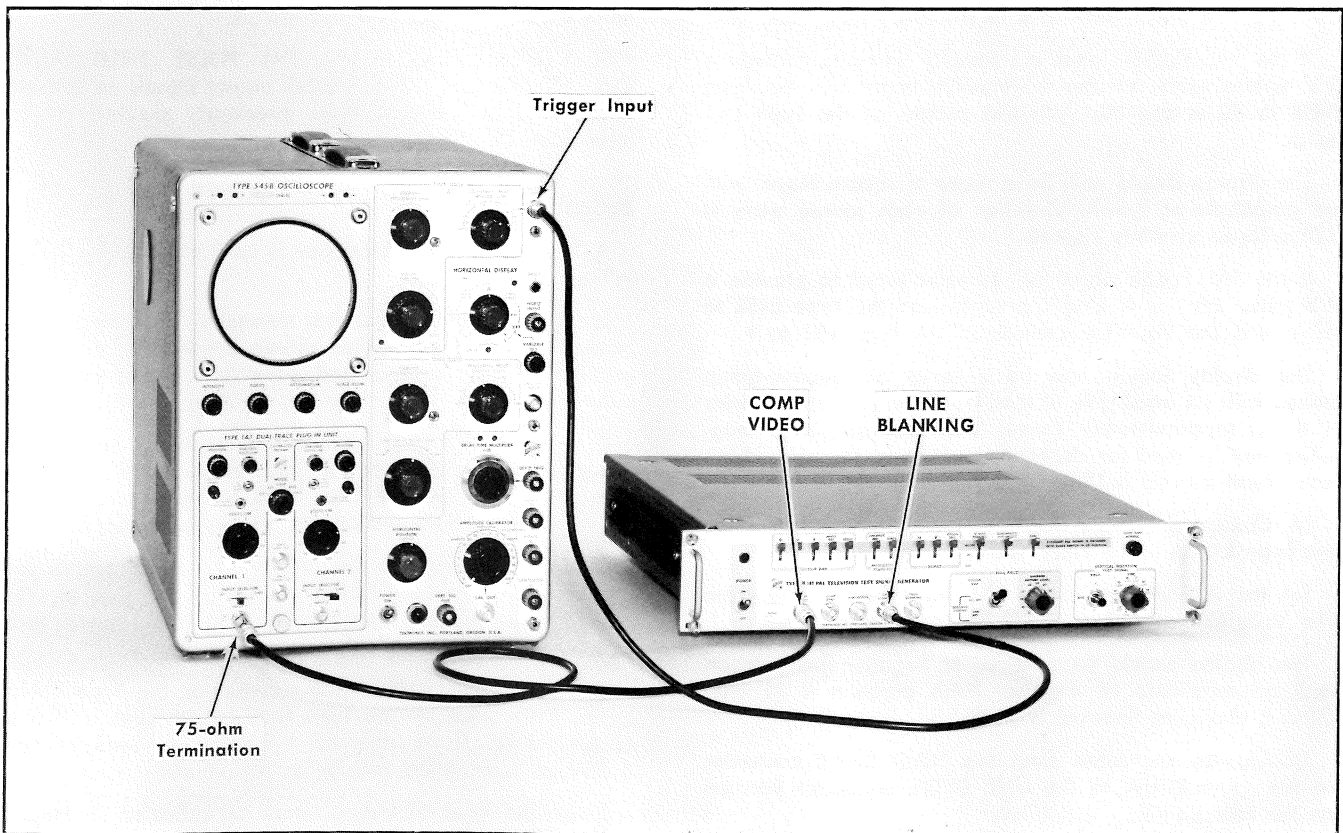

Fig. 2-8. Initial test equipment setup for First-Time Operation, Procedure 2.
1. Connect the COMP VIDEO output on the Type R141A to one end of a 75-ohm coaxial cable. Connect a 75-ohm termination to the other end of the cable and then connect the termination to Input 1 on the Type 1A1 Plug-In Unit. Connect another 75-ohm cable from the LINE DRIVE output on the rear of the Type R141A to the Time Base A Trigger Input connector on the Type 545B. See Fig. 2-8.